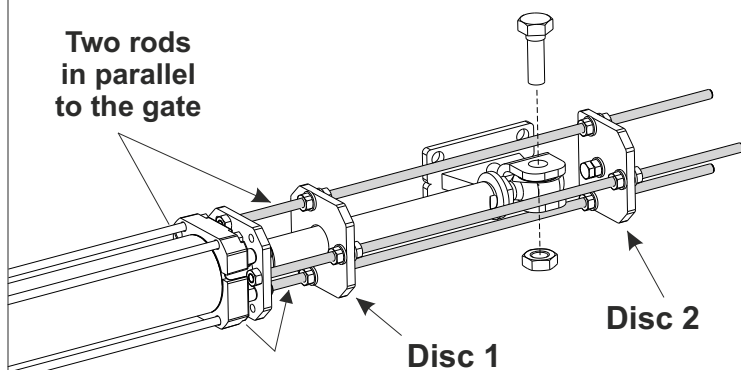

Fig. 25
- 3) Place the mechanical stops on the front flange, with two rods at least in parallel to the gate (Fig. 25)